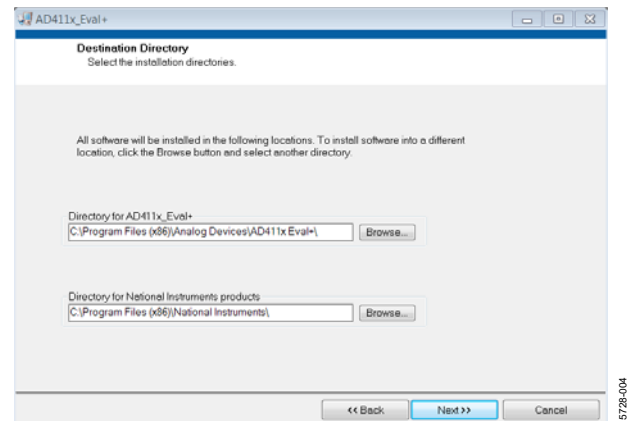

Figure 5. **AD411x Eval+** Software Installation: Selecting the Location for Software Installation
4. Select a location to install the software and click **Next**. Figure 5 shows the default locations, which are displayed when the dialogue box opens, but another location can be selected by clicking **Browse**.